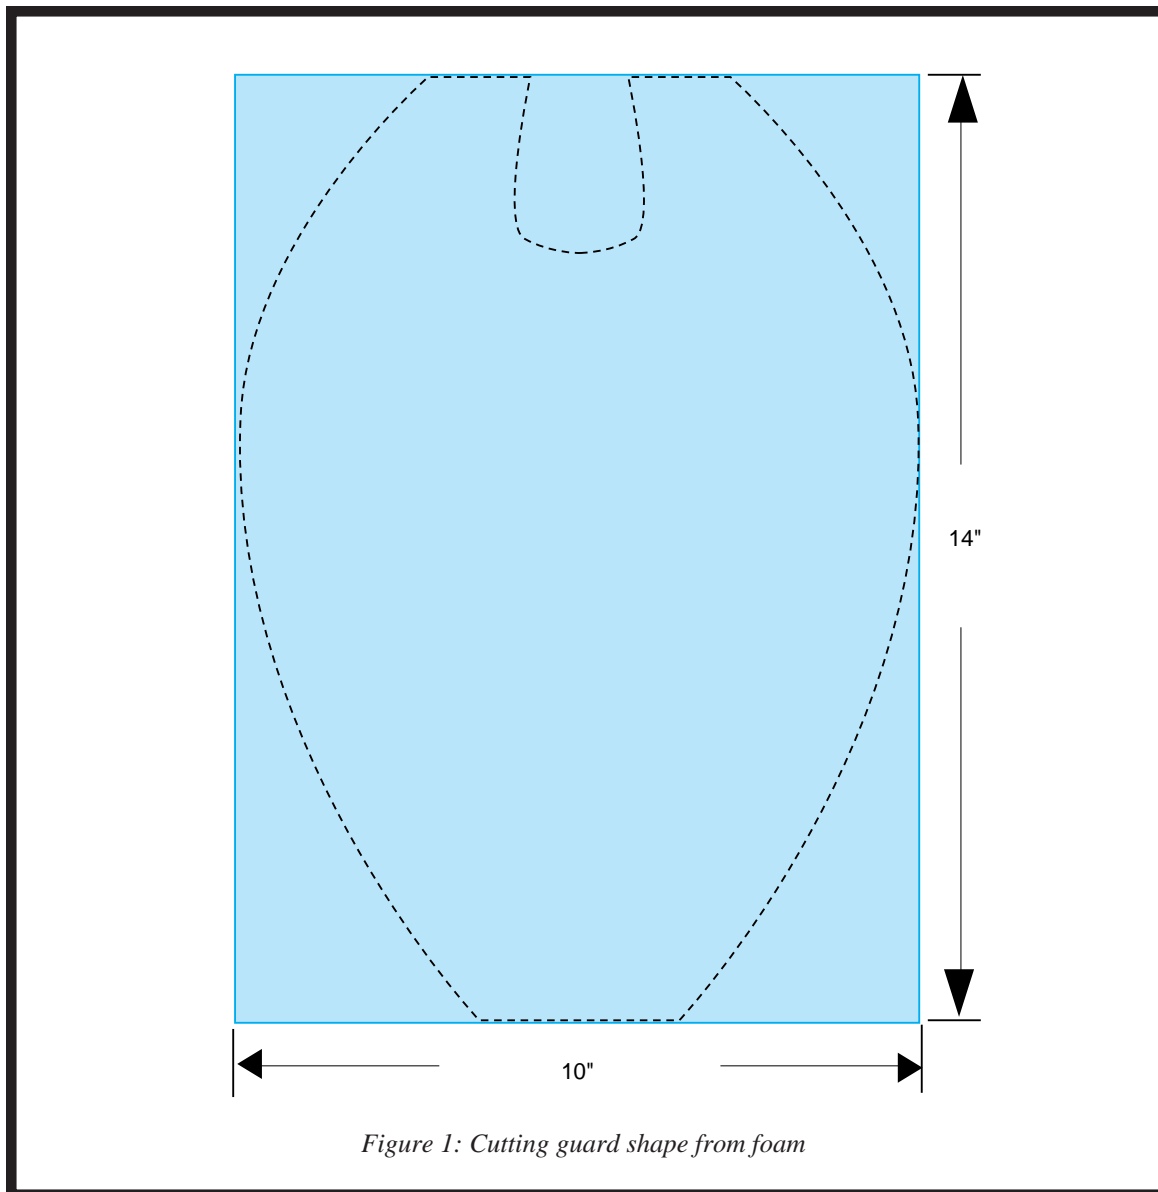

Figure 1: Cutting guard shape from foam
- 2) Cut the foam to the shape defined by the dotted line in Figure 1. (Fig. 1)